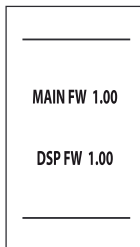

fig. 7 - Turning on / Software version
- During the first 5 seconds the display shows the software version of the board and display (fig. 7 - Turning on / Software version).